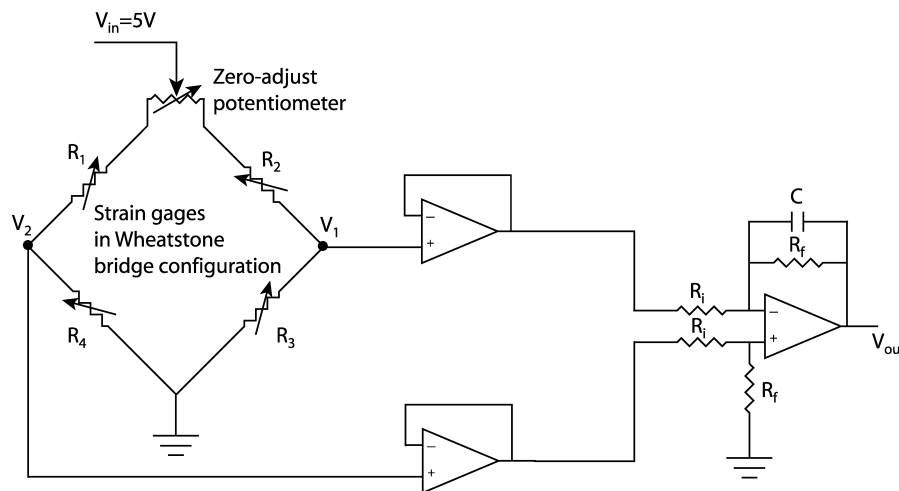

Figure 1. Force measurement circuit.
four gages. Two gages are mounted on the bottom of a beam, and two are mounted on the top. They are wired to form a Wheatstone bridge circuit as in Figure 1, which provides maximum sensitivity to the very slight changes in resistance. The zero-adjust knob is a potentiometer whose task is to manually ensure that V_1 and V_2 are equal under no load conditions (balance the bridge).
The op-amp circuit on the right of Figure 1 consists of two buffers to protect the gages and a low-pass filter. The filter has two jobs: it subtracts V_1 from V_2 and then amplifies and removes noise from the difference. The output voltage, V_{out} , is determined by the following relationship:
- 1) The strain gages will provide a very weak signal. You will want to boost this signal to obtain usable results. You will need to connect the bridge to the instrumentation amplifier shown in the right half of Figure 1. Additionally, you may need to apply one or two cascading amplifier stages after the stage shown below in order to boost the signal. Use a capacitor in the feedback path of your amplifier to filter the signal (recall the exercise on operational amplifiers). **Make note of the resistor and capacitor values you used for the next lab: $R_f = \underline{\hspace{1cm}}$, $R_i = \underline{\hspace{1cm}}$, $C = \underline{\hspace{1cm}}$.**